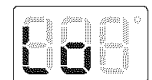

Fig. 2
3. Press -lo to choose the Lo option -Fig. 2.